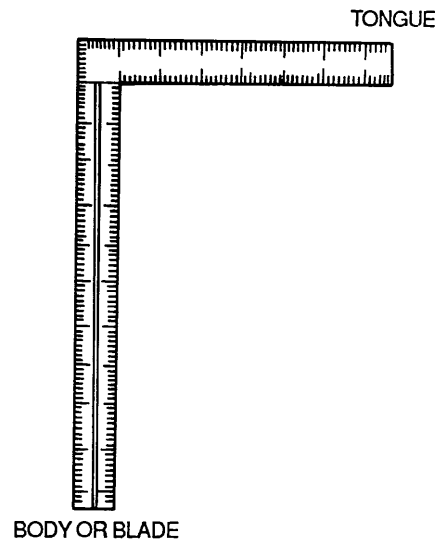

Figure 3-10. Carpenter's Square
(1) Carpenter's square. The carpenter's square, shown in figure 3-10, is made up of two parts: the body or blade, and the tongue. It has inches divided into eighths, tenths, twelfths, and sixteenths.